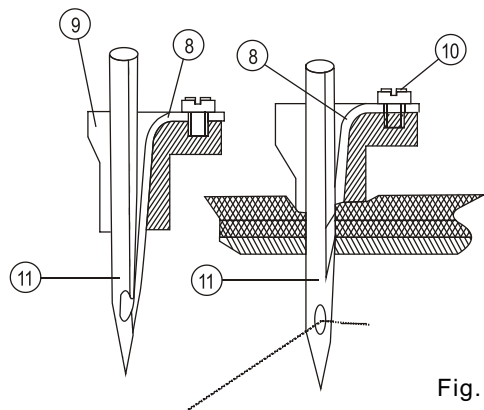

Fig. 2
(1) Put on the needle to make its notch facing the operator.
(2) Put on closing needle (No. 8 in Fig. 2), with its point at the position of 0.8-1.2mm below needle notch.
(1) Upper threading: threading steps as indicated in Fig. 2, threaded through the hole on thread stand, through the hole on machine head (No. 12 in Fig. 3), through the thread clamp (No. 13 in Fig. 3) on machine head, hung on the blade (No. 14 in Fig. 3) below machine head, hung on the automatic trimming port (No. 14A in Fig. 3), hung on the needle eyelet (No. 11 in Fig. 2), pull straight to the left, maximum length up to 90cm, not exceeding the set length. Place the cloth below presser foot before threading.